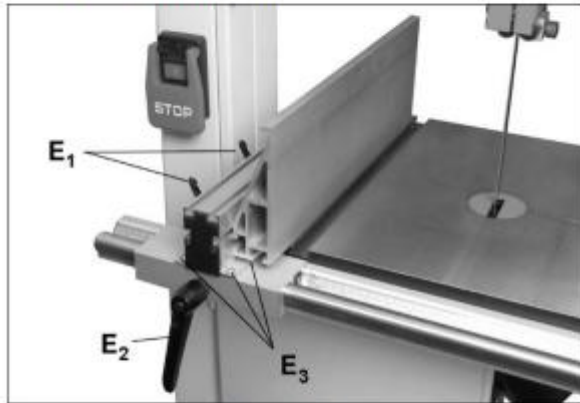

Figure 5-9
4. Slide fence against edge of miter slot (Figure 5-9) and tighten handle (E₂) to lock position. The fence should align parallel to miter slot along entire length of fence.
5. If adjustment is needed, loosen four screws (E₃, Figure 5-9) and shift fence body as needed to align fence with miter slot.